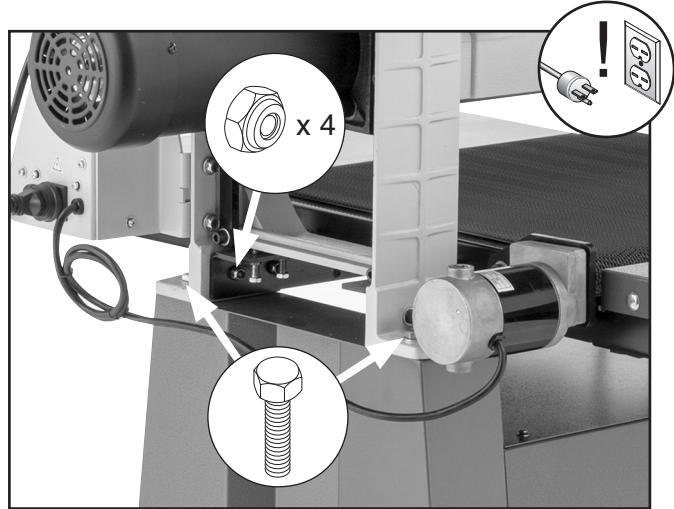

Figure 60. Mounting hardware to loosen for drum adjustment.
8. Loosen (4) lock nuts and (2) hex bolts shown in **Figure 60**.
- Refer to **Aligning Drum** on **Page 41** to check/adjust drum alignment before tightening hex bolts in **Figure 60** on **Page 42** to secure adjustments.